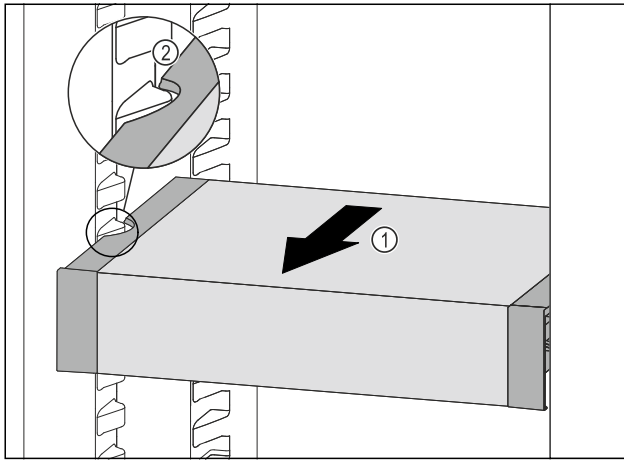

Fig. 98
- Pull VarioSafe forwards Fig. 98 (1) until the recesses in the side of the VarioSafe are at the level of the support rib in the fridge section. Fig. 98 (2)